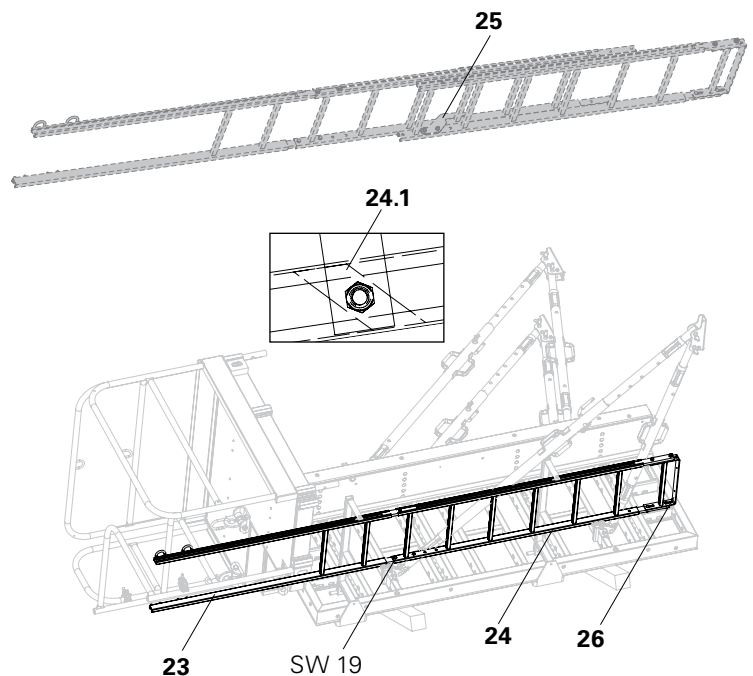

Fig. A3.07
- Connect End Ladder 180/2 (23) to Ladder 180/6 (24), (SW 19). Depending on the height, mount additional Ladders 180/6.
- Mount Ladder Base (26) and Ladder Hook (25) to the bottom Ladder, (SW 19). (Fig. A3.07)